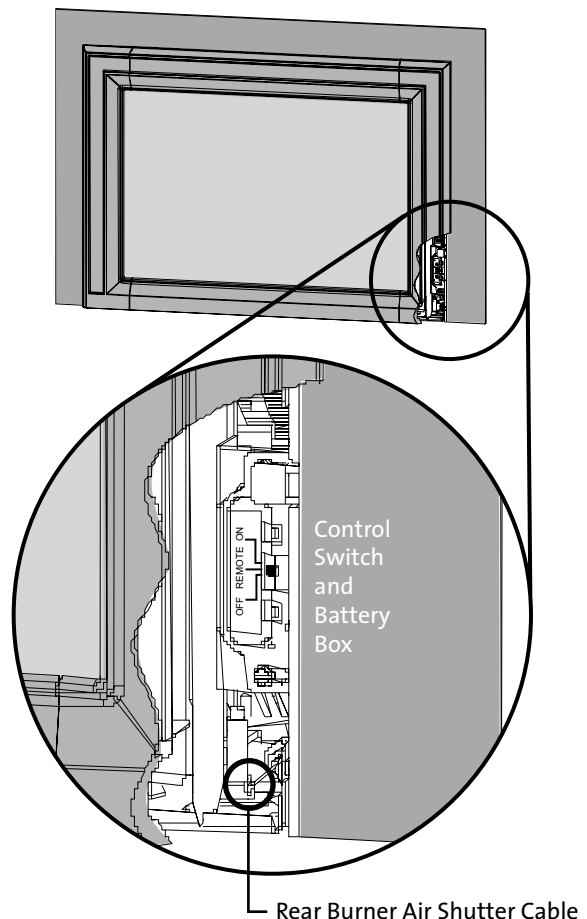
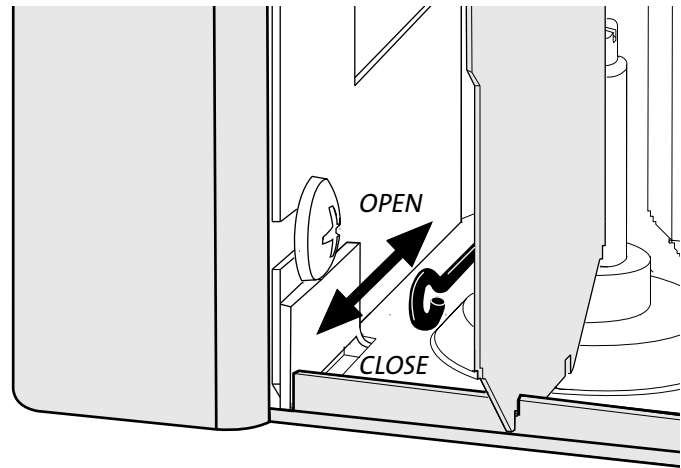

Figure 54. Fireplace Control Switch / Battery Box location.
Figure 55. Front Burner Air Shutter Cable location - Left-side Compartment.
1. **Battery Installation:** In the event of a power failure, install the four, 1.5v AA batteries into the IFC Back-up battery box in the right side firebox compartment. See Fig. 54. Do not leave them in the battery box permanently as the box will corrode.
The volume of air supplied to the front and rear burners is regulated by individual air shutters which are controlled in turn by cables located at the each side of the firebox. The right cable controls the Rear Burner air (fig. 54) and the left cable controls the Front Burner air (fig. 55).